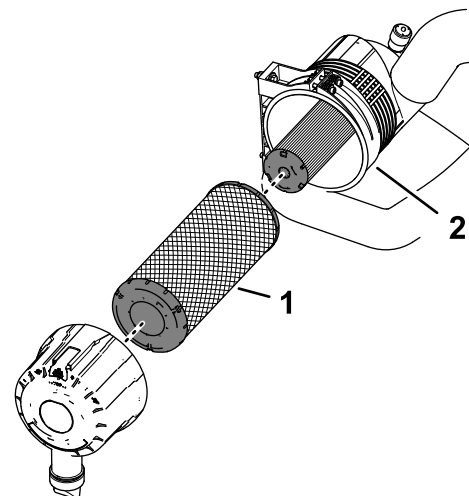

Figure 75
7. Remove the primary-filter element (Figure 75).